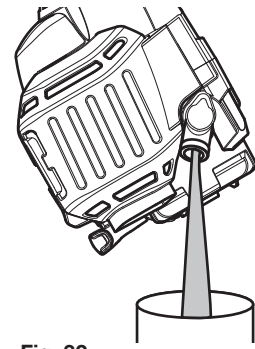

Fig. 32
3. Tip the unit vertically to pour the oil out of the oil fill hole and into a container (Fig. 32). Allow ample time for complete drainage.